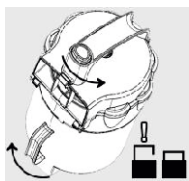

Figure 16
3. To unlock the cover, turn it and the container as shown in (Figure 16).